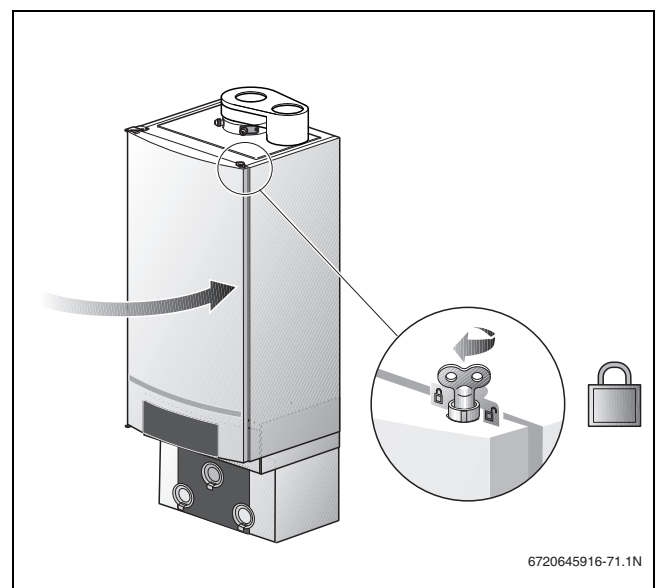

Fig. 74 Closing the boiler door
- Close the boiler door (→ fig. 74) and lock the fastener by turning the vent screw through ¼ rotation in a clockwise direction.